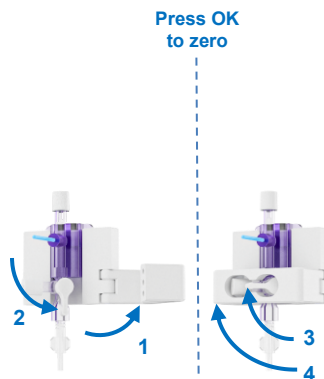

Figure 23 Zeroing of the pressure sensor
- Open the bracket of the pressure sensor holder to access the valve on the pressure sensor (Figure 23; step 1). As instructed on the display, turn the valve on the pressure sensor downwards to open the sensor to measure atmospheric pressure (step 2).
- Turn the pressure sensor valve back to horizontal position (see Figure 23; step 3) and close the bracket of the pressure sensor holder to protect the valve from unintentional opening (step 4). Press OK on the Pump Unit to continue.
- In case the Kidney Assist cannot determine if the pressure sensor is appropriately connected to the perfusion circuit, check if the position of the valve of the pressure sensor is in the horizontal position (Figure 23, step 3). Press OK if the valve of the pressure sensor is in the horizontal position.